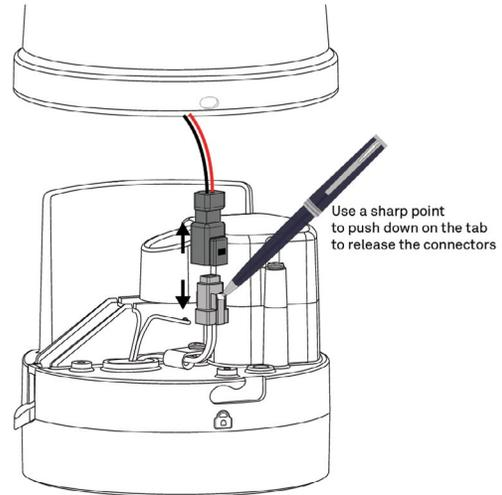

Figure 3. Disconnect pyranometer connector
6. Press in the tabs on both sides of the connector locking mechanism with an object with a sharp point (e.g., a ball-point pen, Figure 3).
**NOTE: If the rain funnel pyranometer connect does not look like the one in Figure 3, just pull the connectors apart.**